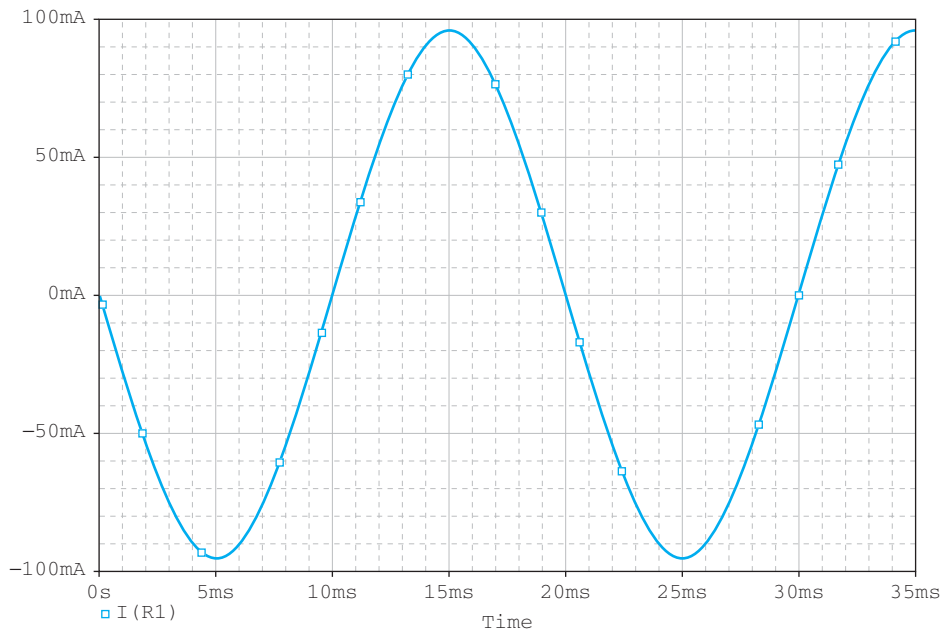

FIGURE 2.78 Current plot for time domain simulation.
10. The output of the plot for the current plot is shown in Figure 2.78.